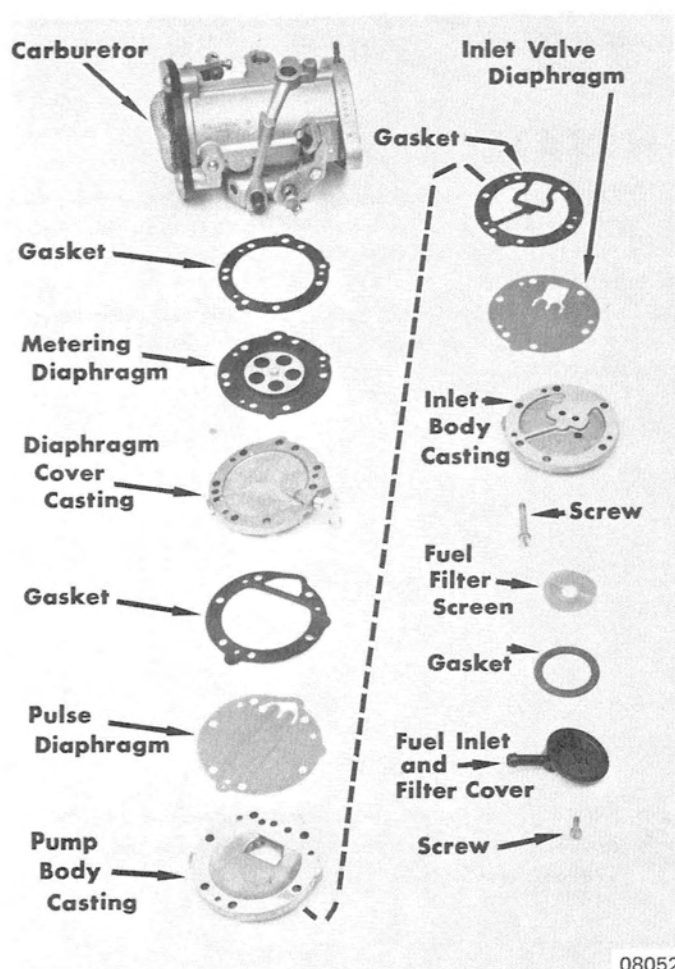

Figure 6. 440 MAX (438cc) and Mark II (644cc) Fuel Pump
1. Using index mark made during "Removal", reassemble gaskets, diaphragms and castings in correct order. (Figure 6)